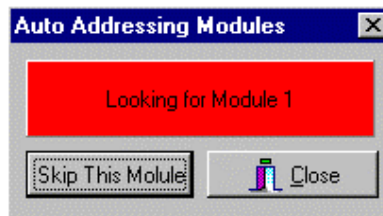

Fig. 105
6) Click **Controller Utility** with your left mouse button. A window will appear (fig. 105).